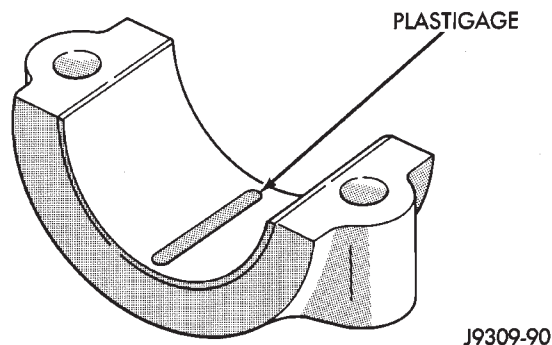
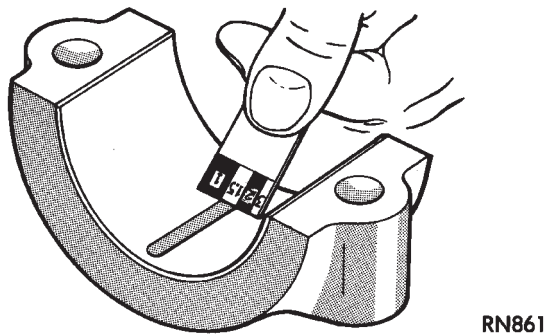

Fig. 2 Placement of Plastigage in Bearing Shell
Fig. 3 Clearance Measurement
(3) Place a piece of Plastigage across the entire width of the bearing cap shell (Fig. 2). Position the Plastigage approximately 6.35 mm (1/4 inch) off center and away from the oil holes. In addition, suspect areas can be checked by placing the Plastigage in that area. Tighten the bearing cap bolts of the bearing being checked to 108 N•m (80 ft. lbs.) torque (4.0L Engine). Tighten the bearing cap bolts of the bearing being checked to 115 N•m (85 ft. lbs.) torque (5.2L Engine). **DO NOT rotate the crankshaft or the Plastigage may be smeared, giving inaccurate results.**
(4) Remove the bearing cap and compare the width of the flattened Plastigage with the scale provided on the package (Fig. 3). Plastigage generally comes in 2 scales (one scale is in inches and the other is a metric scale). Locate the band closest to the same width. This band shows the amount of clearance. Differences in readings between the ends indicate the amount of taper present. Record all readings taken (refer to Engine Specifications).
(5) Plastigage is available in a variety of clearance ranges. The 0.025-0.076 mm (0.001-0.003 inch) range is usually the most appropriate for checking engine bearing clearances.
(1) Remove oil film from surface to be checked. Plastigage is soluble in oil.
(2) Place a piece of Plastigage across the entire width of the bearing cap shell (Fig. 2). Position the Plastigage approximately 6.35 mm (1/4 inch) off center and away from the oil holes. In addition, suspect areas can be checked by placing the Plastigage in the suspect area.
(3) The crankshaft must be turned until the connecting rod to be checked starts moving toward the top of the engine. Only then should the rod cap with Plastigage in place be assembled. Tighten the 4.0L rod cap nut to 45 N•m (33 ft. lbs.) torque. Tighten the 5.2L rod cap nut to 61 N•m (45 ft. lbs.) torque. **DO NOT rotate the crankshaft or the Plastigage may be smeared, giving inaccurate results.**